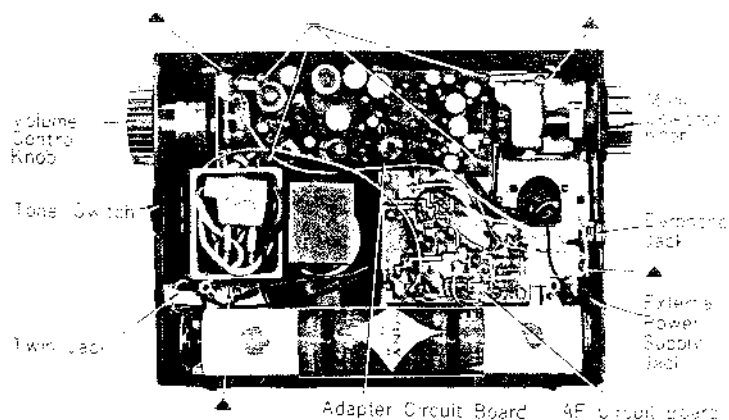

Fig. 2.
- (1) Remove the two Back Cover Holding Screws ( $\ominus$  RK 2.6 X 10) and open the Back Cover.
- (2) Take out all the Batteries.
- (3) Remove the Battery Cylinder by unscrewing the two screws.
- (4) Remove the Mode Selector Knob and the Volume Control Knob by pulling straight out.
- (5) Remove the Earphone Jack, the Tone Switch, the Twin Jack and the External Power Supply Jack by pulling straight out.
- (6) Remove the four Chassis Holding Screws marked with  $\blacktriangle$  in Fig. 2.
- (7) Take out the Chassis from the Cabinet gently.
- (1) Remove the two Back Cover Holding Screws and open the Back Cover.
- (2) Remove the four Adapter Circuit Board Holding Screws marked with  $\blacktriangle$  in Fig. 2.
- (3) Remove the Adapter Circuit Board from the Chassis taking care not to touch the board.